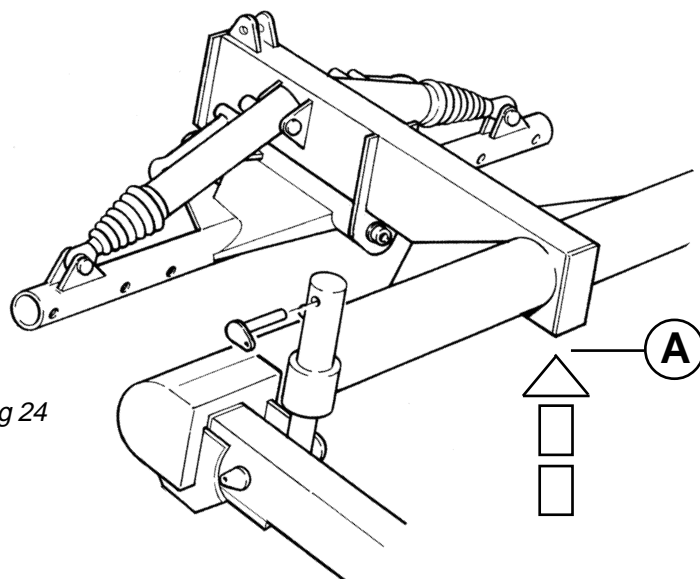

Fig 24
- Place trolley jack under frame in position indicated, Fig 24.A.